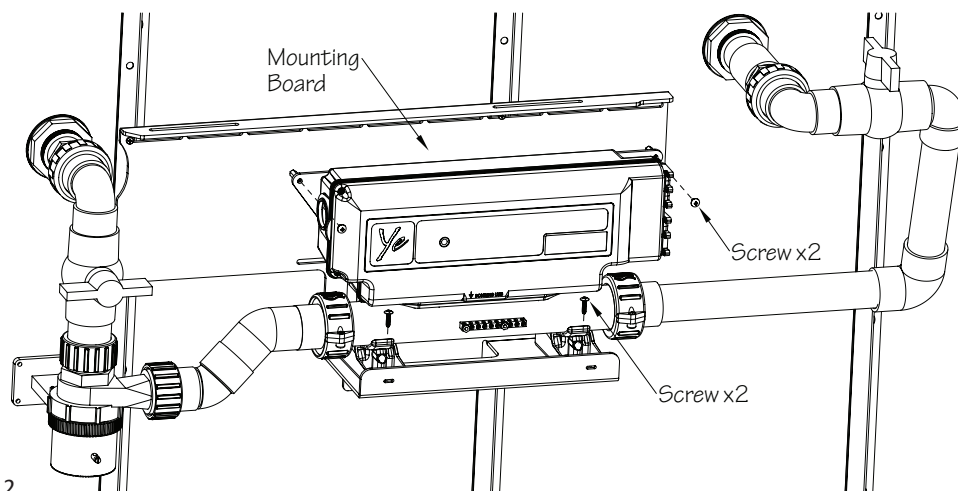

Fig. 12
12. Secure the controller to the Mounting Board with four screws (Fig. 12).